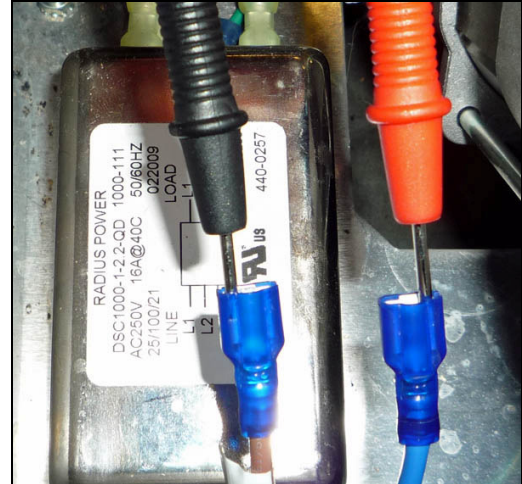

Fig. 5
6. Insert the multi-meter leads into the cables (Fig. 5) then turn the power on. The voltage reading should be like those noted in step 4.